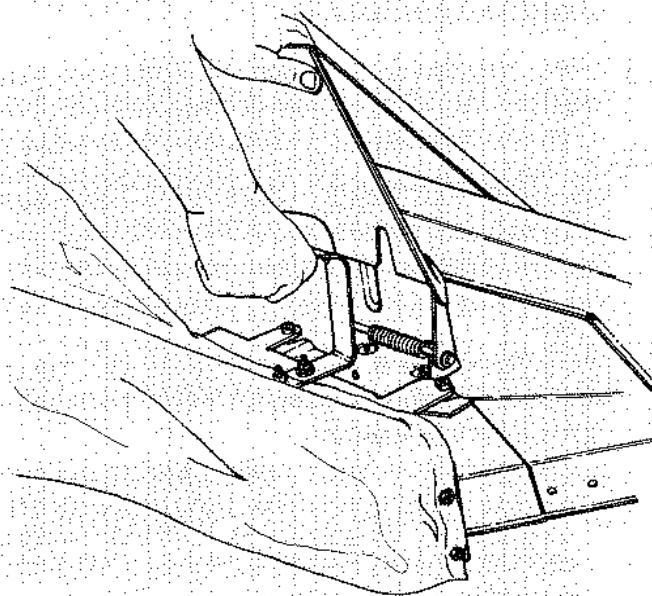

FIGURE 4.
- Raise the chute deflector on the mower. Place the front edge of the upper opening support over the adapter plate, so the bolts on the upper opening support lock into the notches on the adapter plate. See figure 4.